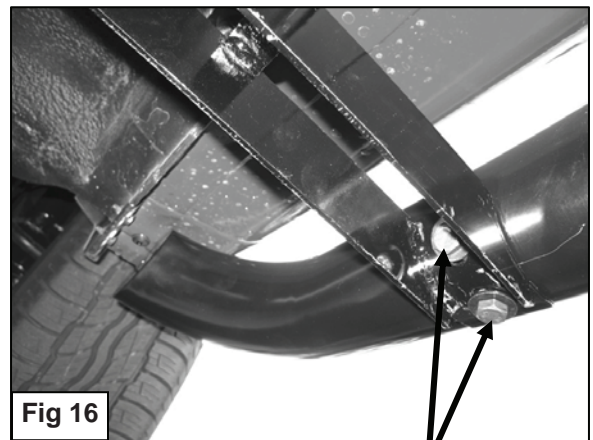

Fig 16
18. Position driver Sidebar onto Mounting Brackets and attach it using the included (4) M10 Hex Head Bolts, (4) M10 Lock Washers, and (4) M10 Flat Washers (**Figure 16**).